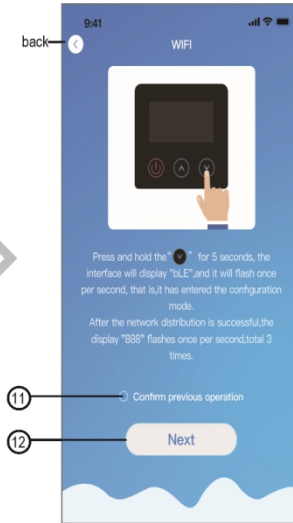

Fig.8 WIFI Module On interface
2. Follow the instructions on the page (Fig.8), press button on module and hold for 1s till two lights on then AP connection is activated, click ⑫ to next;
3. Click ⑬ to enter the WIFI password for the current connection, click ⑭ to confirm.